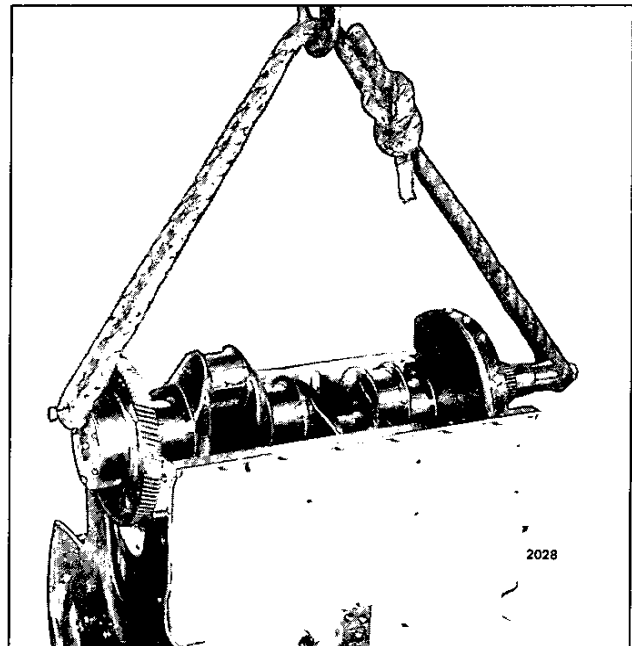

Fig. 3 – Removing or Installing Crankshaft
19. Remove the crankshaft, including the timing gear (Fig. 3).